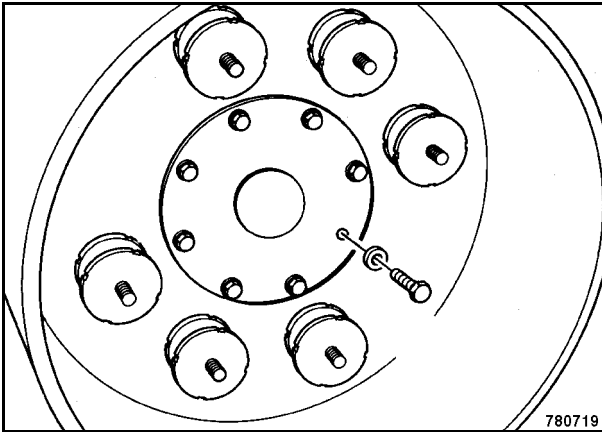

Fig. 17
26. Unscrew the fastening screws (Fig. 17) from the drum.